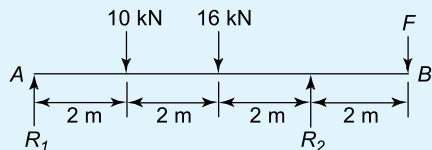

Figure 5.19
- A simply supported beam AB is loaded as shown in Figure 5.19. Determine the load F in order that the reaction at A is zero. [36 kN]